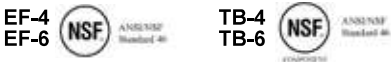
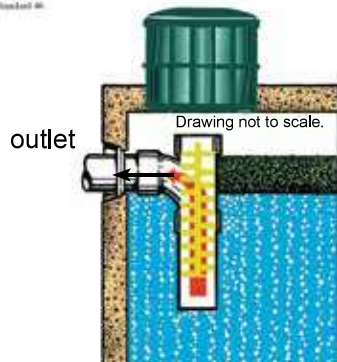

Figure 1:
Figure 2:
Tuf-Tite Effluent Filters are designed to extend the life of your drainfield by preventing solids from leaving the septic tank. The filter fits into either a 4" or 6" Tee Baffle which in many cases is already attached to the outlet pipe. If a Tee Baffle is not installed, install as shown in Figure 2, allowing enough clearance from the end of the tank to permit easy filter access.
1. Insert the filter into the Tee Baffle with arrow on the top of the filter pointing toward the outlet pipe (as shown in Figure 1 and Figure 2).